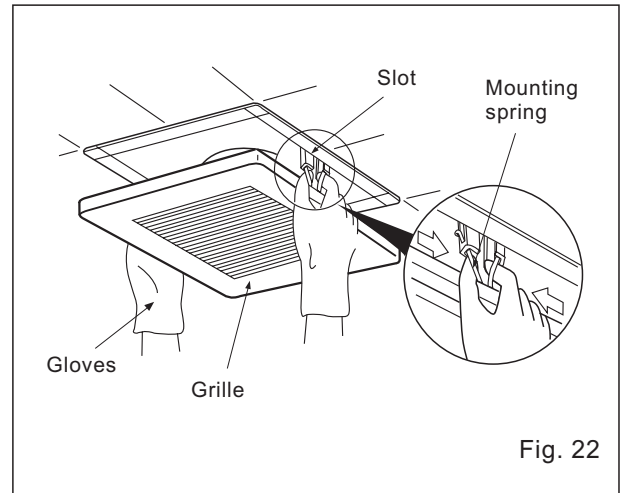

Fig. 22
1. Remove grille. (Squeeze mounting spring and pull down carefully.) (Fig.22)